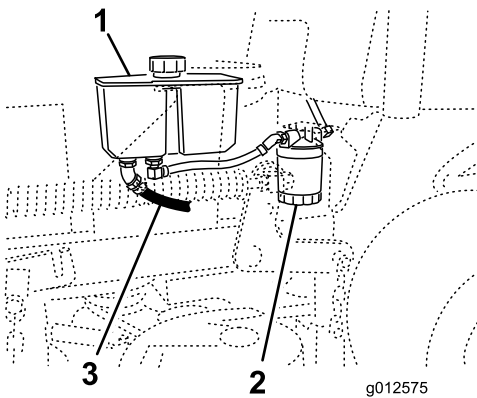

Figure 72
4. Locate the front hydraulic hose under the hydraulic tank and place drain pan under the tank (Figure 72).